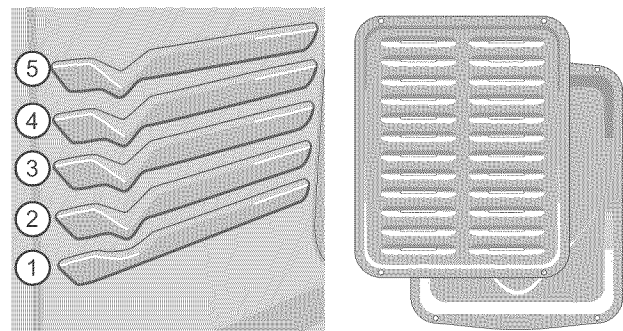

Figure 28: Broil rack positions (L) and broil pan with insert (R)
2. Position bakeware in oven to the preferred rack position (See Figure 28). Close the oven door.